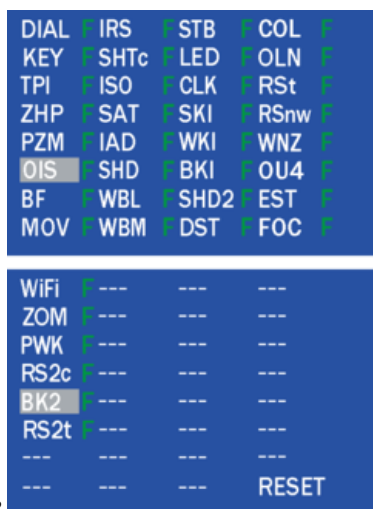

Fig. 3-2
1. After pressing the [ DISP. ] button, the LCD monitor displays the Flag status screen. (Refer to Fig.3-2)